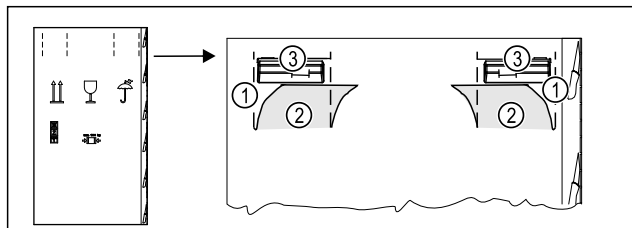

Fig. 4
- ▶ Press the packaging cardboard into the perforation Fig. 4 (1) at the top.
- ▶ Pull out any tabs Fig. 4 (2) that have been pushed in.
- ▶ Carrying handle Fig. 4 (3) visible on the right and left.
- ▶ Hold the appliance by the carrying handles Fig. 4 (3).